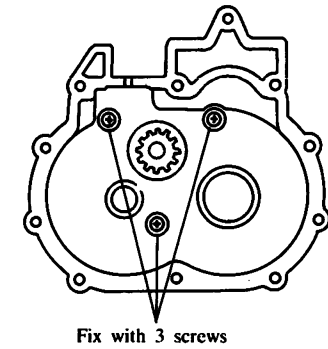

Fig. 52
- (2) Mount the gear box to the motor with the three screws (4×25) (Refer to Fig. 52)